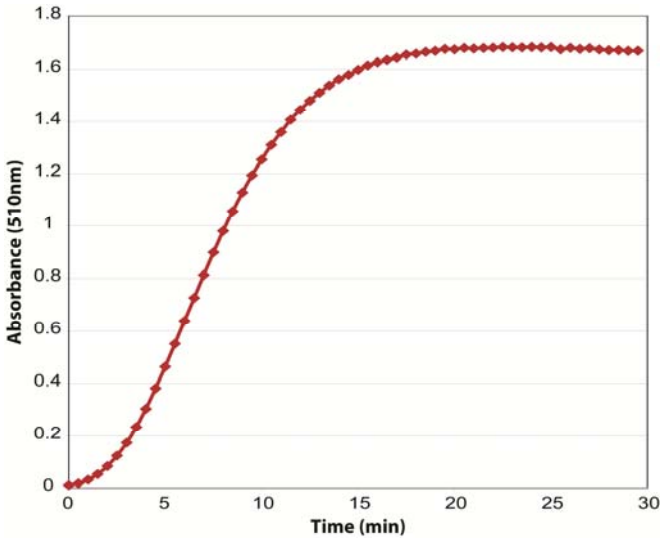
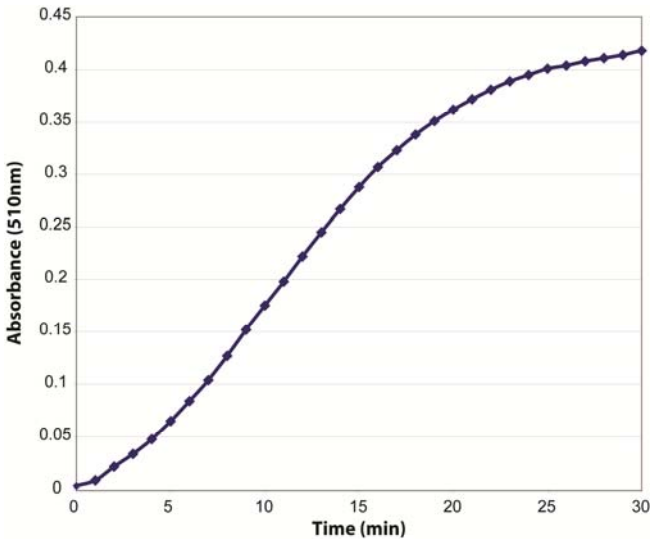

Figure 2: SAM510 Assay quantitatively assays the Positive Control: 50 μ M Adenosylhomocysteine (AdoHcy).
Figure 3: Human lysine specific histone Methyltransferase SET7/9 assayed with 20 μ M TAF-10 as the acceptor substrate.
- Either, plot the absorbances against time to obtain the slope (rate) of the linear portion of the curve. See figure 2 for a plot with the AdoHcy positive control and figure 3 for an example using humane lysine specific histone Methyltransferase, SET7/9). Subtract the background control from your samples and positive control and then plot a curve of time (minutes) against absorbance. The rate of the enzyme activity can be characterized by the absorbance increase per minute.